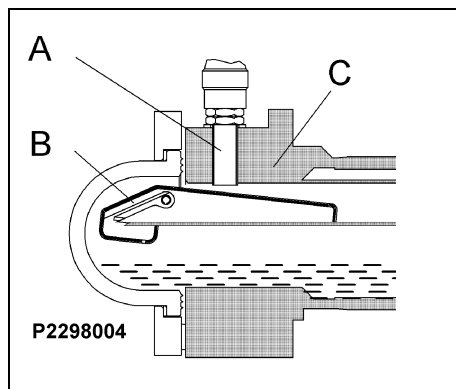

Fig. 146
- Fig. 146: Switching status 0 "Alarm" Rocker not actuated (reservoir empty)
If the oil flow is interrupted, the oil flows through a small hole out of the reservoir and the rocker B falls back into its final position (see Fig. 146). The proximity switch switches and the control outputs an error message.